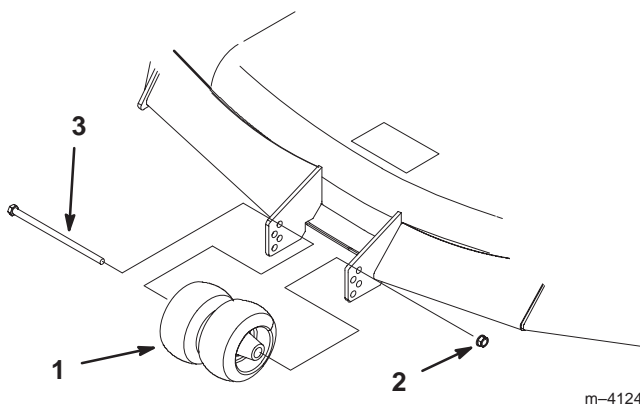

Figure 23
2. After adjusting height-of-cut, remove bolt and nut (Fig. 23).
3. Select hole so gage wheel is positioned to the nearest corresponding height-of-cut desired (Fig. 23).
4. Reinstall the bolt, center rollers and nut (Fig. 23).